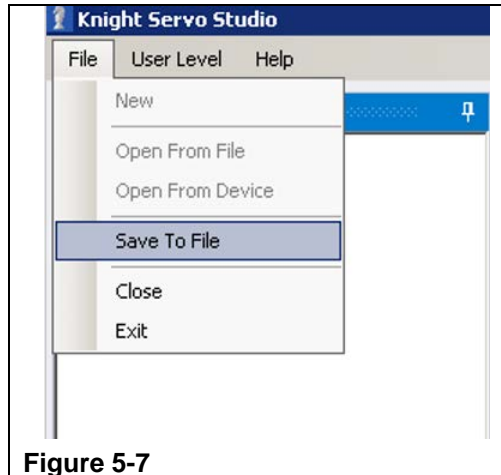

Figure 5-7
- Step 1. Mouse up to the top menu bar located on the left-hand side of the screen and select 'File'. Highlight the 'Save To File' option and select it. (Refer to Figure 5-7)